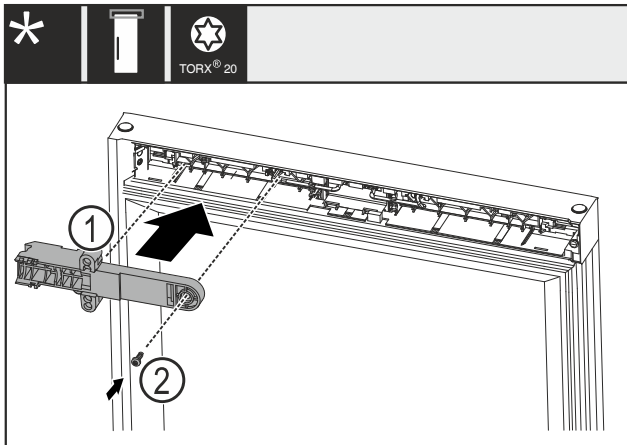

Fig. 22
- ▶ Turn the lock holder Fig. 22 (1) by 180° and attach on the opposite side.
- ▶ Fasten the lock retainer Fig. 22 (1) with a screw Fig. 22 (2).